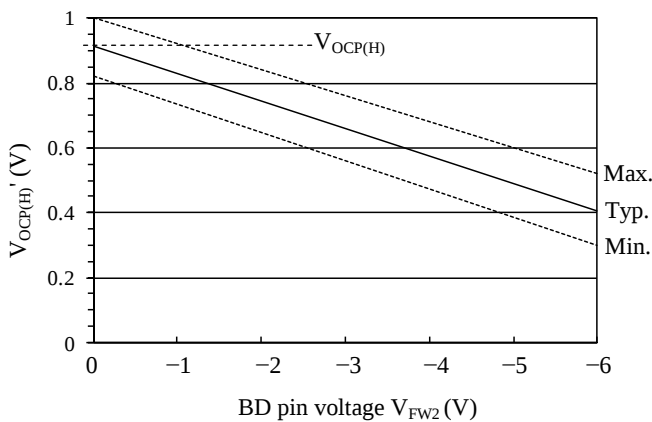

Figure 9-28 Overcurrent threshold voltage after input compensation, $V_{OCP(H)}$ ' (reference for design target values)
4) $V_{OCP(H)}$ ' is the overcurrent threshold voltage after input compensation. Figure 9-28 shows a relationship of $V_{OCP(H)}$ ' and BD pin voltage, V_{FW2} .
V_{FW2} at maximum AC input voltage is calculated by using Equation (7). $V_{OCP(H)}$ ' and this variation are gotten by using the result from Figure 9-28.
Referring to Figure 9-28, when V_{FW2} is compensated to -2.92 V , the overcurrent threshold voltage after input compensation, $V_{OCP(H)}$, is set to about 0.66 V (typ).